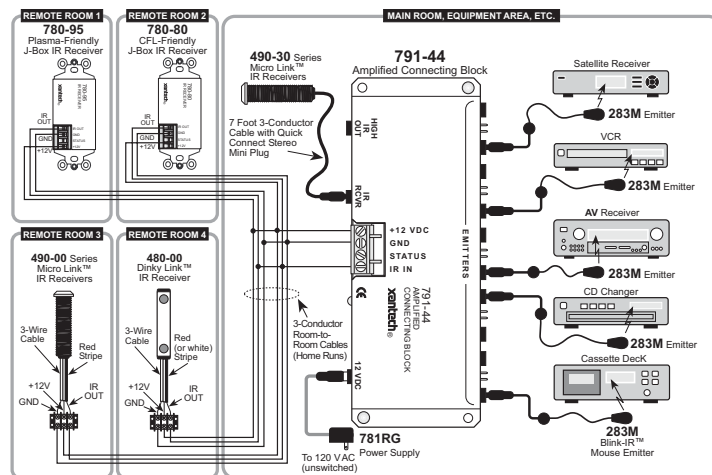

Figure 4 - Advanced Wiring Configuration using 780-95, 791-44, 781RG Power Supply and multiple 283M's
780-95 may also be used in conjunction with other Xantech IR Receivers by simply wiring in parallel on a Connecting Block such as the 791-44 Amplified Block as shown in Figure 4 below.
1. Connect all IR Receivers in parallel at the terminals of the connecting block as shown in Figure 4 below.